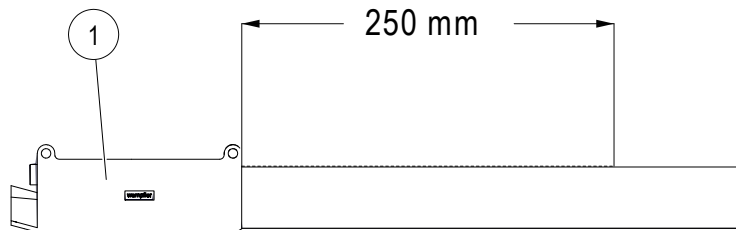

Fig. 17: Measure distance for anchor point hole.
- Measure 250 mm from the rear edge of the end cap (Item 1) on the insulating profile and mark the dimension with a pen (e.g. red or white) (see Fig. 17).